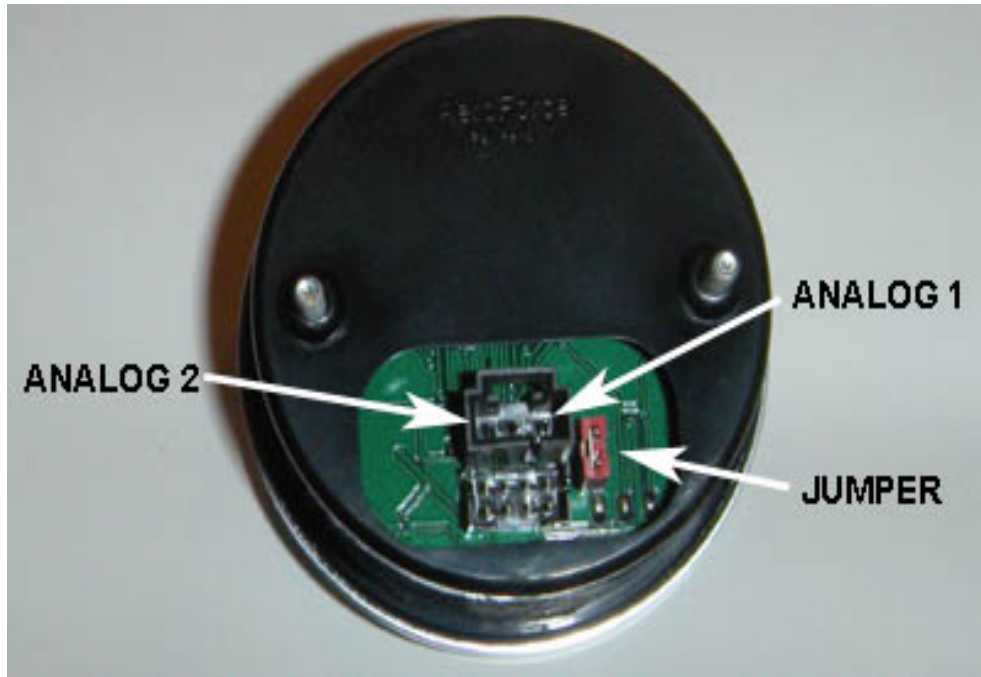

Figure 1
- 4. Plug both cables into the back of the *Interceptor*.** See figure 1. Press the *Interceptor(s)* into the gauge pod or mounting hardware.
- 6. Connect the 0-5v analog inputs (optional).** You will see 3 pins above the main connector on the back of the gauge as shown in *figure 1*. The 2 outer pins connect to the analog inputs. The center pin is for switched 12v power and is not required for virtually any CAN bus vehicle. To connect switched 12v power first remove the **jumper** next to the main connector if connecting to external power. This jumper is required for OBD2 port power only. Connect separate **red** power wire, which exits the middle of the 3-wire mini cable as shown in *figure 1*, to a switched 12v line or circuit in the vehicle. These circuits are commonly known as “accessory” circuits because they are only “hot” when the ignition is turned on. A recommended way of doing this step is to use a product called an “*Add a Circuit*”, made by *Littelfuse*, available at most car parts outlets. These kits, which sell for under \$10, allow you to easily use an existing circuit in the fuse block, such as the power windows, sunroof, etc. to power the gauge only when the ignition is on, known as ACC circuits.
The right-side pin, when looking at the rear of the gauge, goes to analog input 1. The left pin is for analog input 2. See *figure 1*. Included in the gauge packaging is a 3-wire cable that connects here. Once attached to the gauge, you'll see that the green wire is for analog 1, the white for analog 2. These inputs can be used to read the outputs from pressure senders, A/F ratio analog outputs, 2 or 3 bar MAP sensors, or any voltage up to 5v that you want to monitor and/or record. You can scale these signals with a menu function described below. ***These inputs are rated for 0-5 volts, with an over-voltage protection circuit built in. However, running more than 6v into these inputs for an extended period of time could affect the operation of the entire gauge, and possible damage it.***
- 7. Connect switched 12v power (if necessary).** The center pin of the 3-wire harness is for switched 12v power and is not required for virtually any CAN bus vehicle. However, if the gauge is not turning on/off as desired with power coming from the OBD2 port, you can use this method of power as an alternative. To connect switched 12v power first remove the **jumper** next to the main connector if connecting to external power. This jumper is required for OBD2 port power only. Connect separate **red** power wire, which exits the middle of the 3-wire mini cable as shown in *figure 1*, to a switched 12v line or circuit in the vehicle. These circuits are commonly known as “accessory” circuits because they are only “hot” when the ignition is turned on. A recommended way of doing this step is to use a product called an “Add a Circuit”, made by *Littelfuse*, available at most car parts outlets. These kits, which sell for under \$10, allow you to easily use an existing circuit in the fuse block, such as the power windows, sunroof, etc. to power the gauge only when the ignition is on, known as ACC circuits.